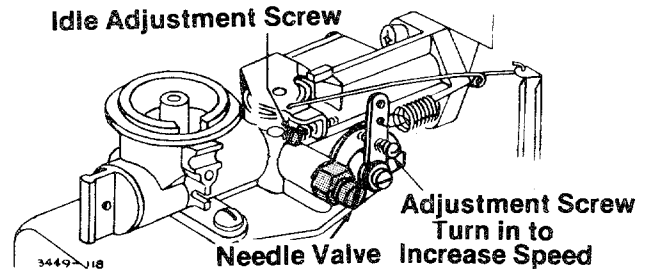

FIGURE 29.
**Initial Adjustment: See figure 29.**
**Final Adjustment: See figure 29.**